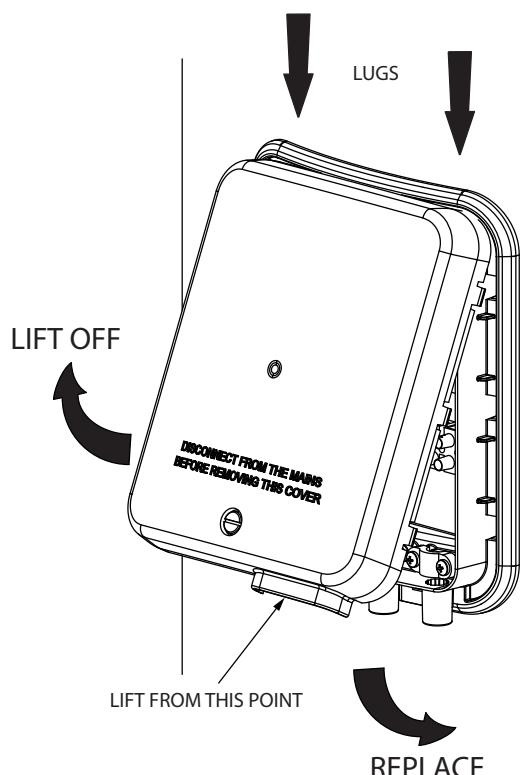

Figure 12: Immersion heater cover removal and replacement
- ▶ The immersion heaters are accessed by removing the Control Cover (see Fig 12).
- ▶ Lift from the bottom of the cover at the point indicated on Fig 12 until cover comes away freely.
- ▶ Replace the Control Cover(s) before operating. To do this tilt the cover and align the top two lugs with the holes in the housing as indicated on Fig 12. Hinge the cover downwards and firmly press the cover until it "snaps" back into place. Secure by tightening the screw on the cover using a flat bladed screwdriver. DO NOT OVER TIGHTEN.
- ▶ The indirect controls and back-up immersion heater are accessed by removing the Control Cover (see Fig 12, page 12).
- ▶ Replace the Control Cover(s) before operating. To do this tilt the cover and align the top two lugs with the holes in the housing as indicated on Fig 12. Hinge the cover downwards and firmly press the cover until it "snaps" back into place. Secure by tightening the screw on the cover using a flat bladed screwdriver. DO NOT OVER TIGHTEN